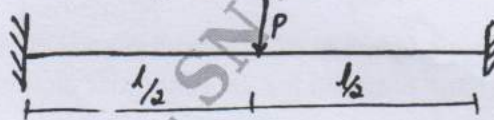

Fig Q2(b)
b. A bar of length  $L$ , cross section area  $A$  and modulus of elasticity  $E$ , is subjected to distributed axial load  $q = cx$ , where  $c$  is a constant as shown in Fig Q2(b). Determine the displacement of the bar at the end using Rayleigh – Ritz method.